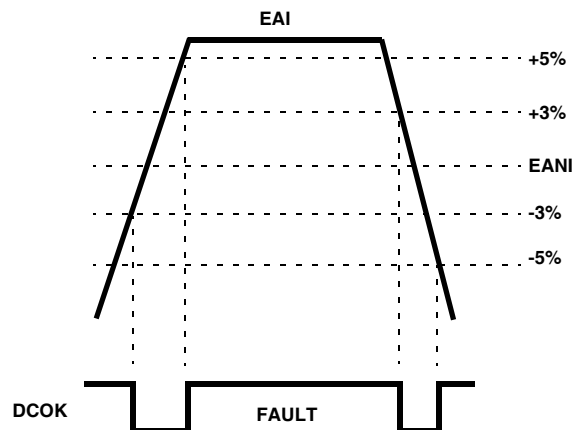

FIGURE 11. UNDERVOLTAGE-OVERVOLTAGE WINDOW
- DCOK pin is an open drain output capable of sinking 5mA. It is low when the output voltage is within the UVOV window. The static regulation limit is $\pm 3\%$, while the $\pm 5\%$ is the dynamic regulation limit. It indicates power-good when the EAI is within -3% to +5% on the rising edge and within +3% to -5% on the falling edge, as shown in Figure 11.